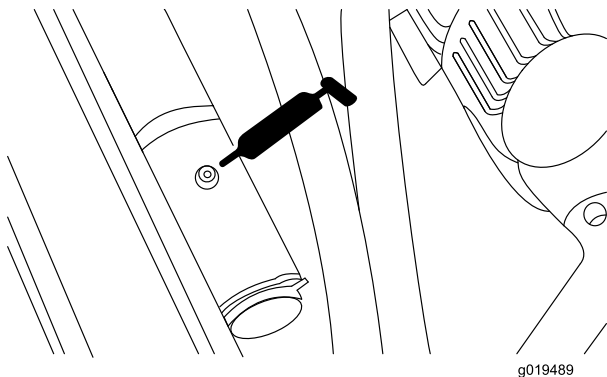

Figure 48
- Rear lift cylinder pivot (2) (Figure 48).